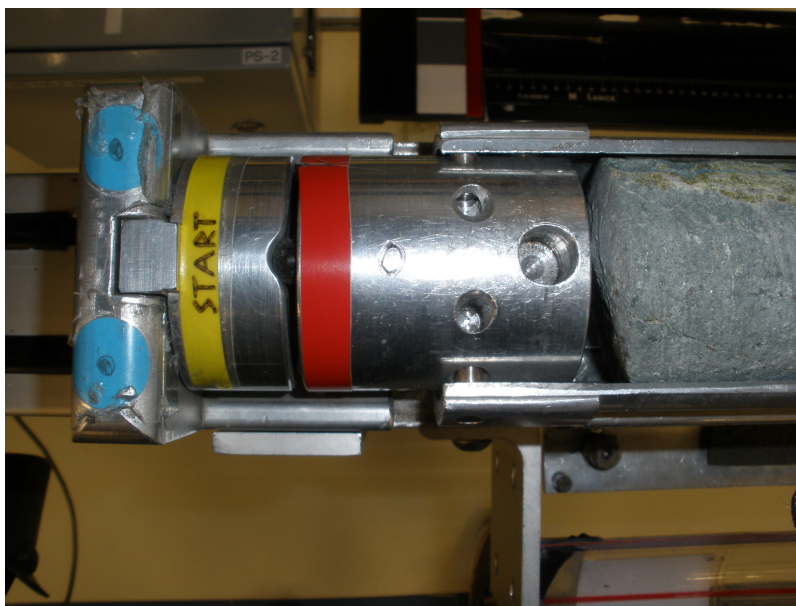

Figure 46. Whole round core correctly placed on the aluminum tray
4. Attach the not 0° aluminum strip and rotate the tray so that the 0° position is up, facing the camera (*Figure 46*).